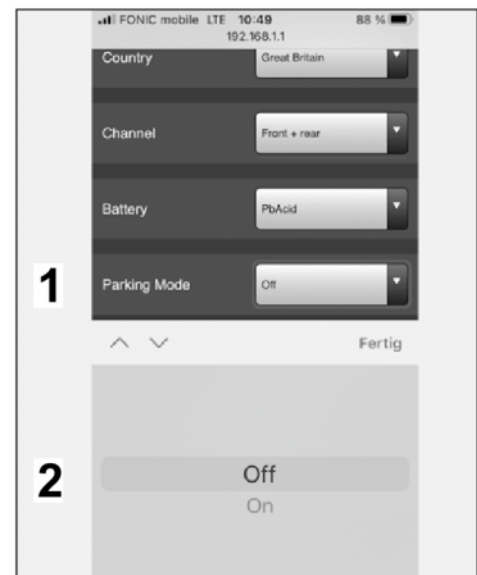

*Figure 24*
5.3.4 Select the battery type (⇒ *Figure 24*)